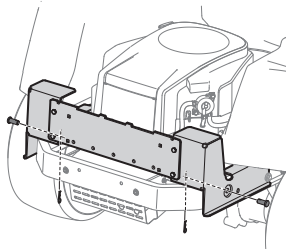

Figure 3
2. Secure the mounting bracket assembly to the tractor using two clevis pins (711-0310) and cotter pins (714-04023) from hardware pack 689-02200. See Figure 3.